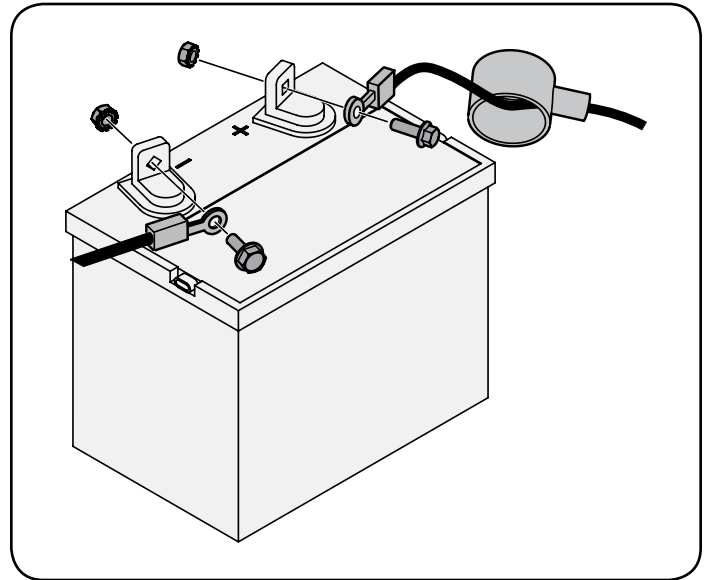

Figure 8
1. Remove the plastic cover, if present, from the positive battery terminal and attach the red cable to the positive battery terminal (+) with the bolt and hex nut. See "Figure 8".
2. Remove the plastic cover, if present, from the negative battery terminal and attach the black cable to the negative battery terminal (-) with the bolt and hex nut. See "Figure 8".